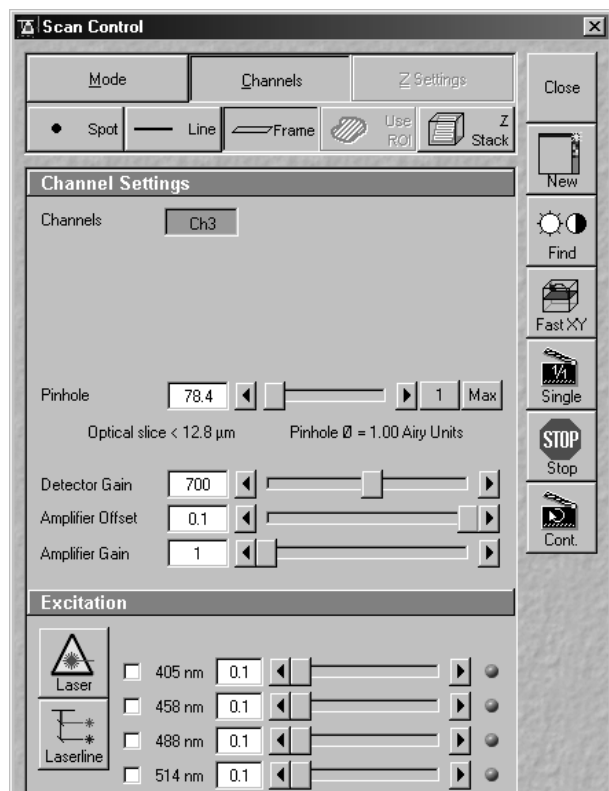

Fig. 4-326 Scan Control window (Channels)
- In the **Scan Control** window, click on the **Cont.** button (see Fig. 4-326).